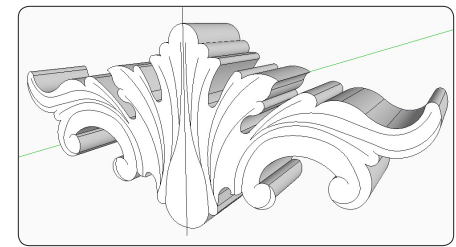

Figure 94. Copy and flip the tracing to create the full carving shape, then give it thickness.
Step 2 Copy the half shape, execute a Flip Along command, and connect it to the original to make the entire carving. Then use the Push/Pull Tool to give the carving thickness, as shown in Figure 94. The amount of thickness isn't critical, because any excess will be removed after you execute an Intersect command.